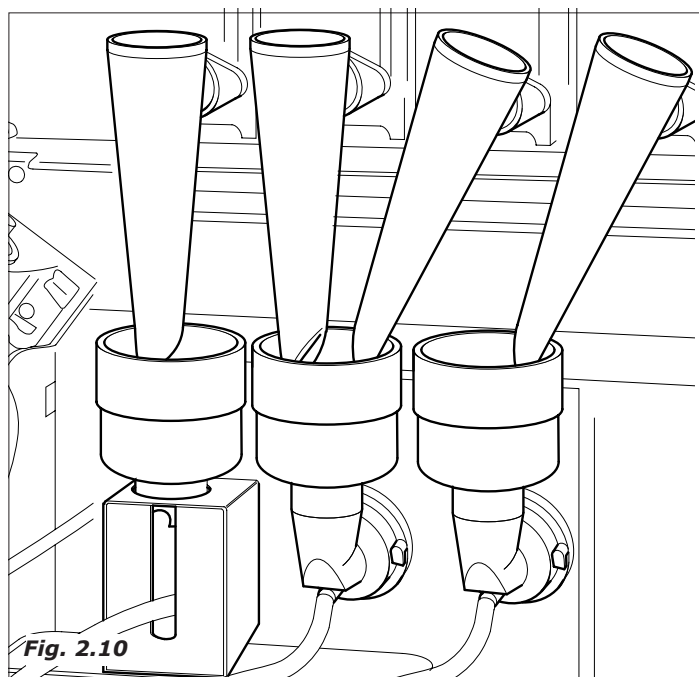

Fig. 2.10
- If present, the whipper motor is activated (Fig.2.10)